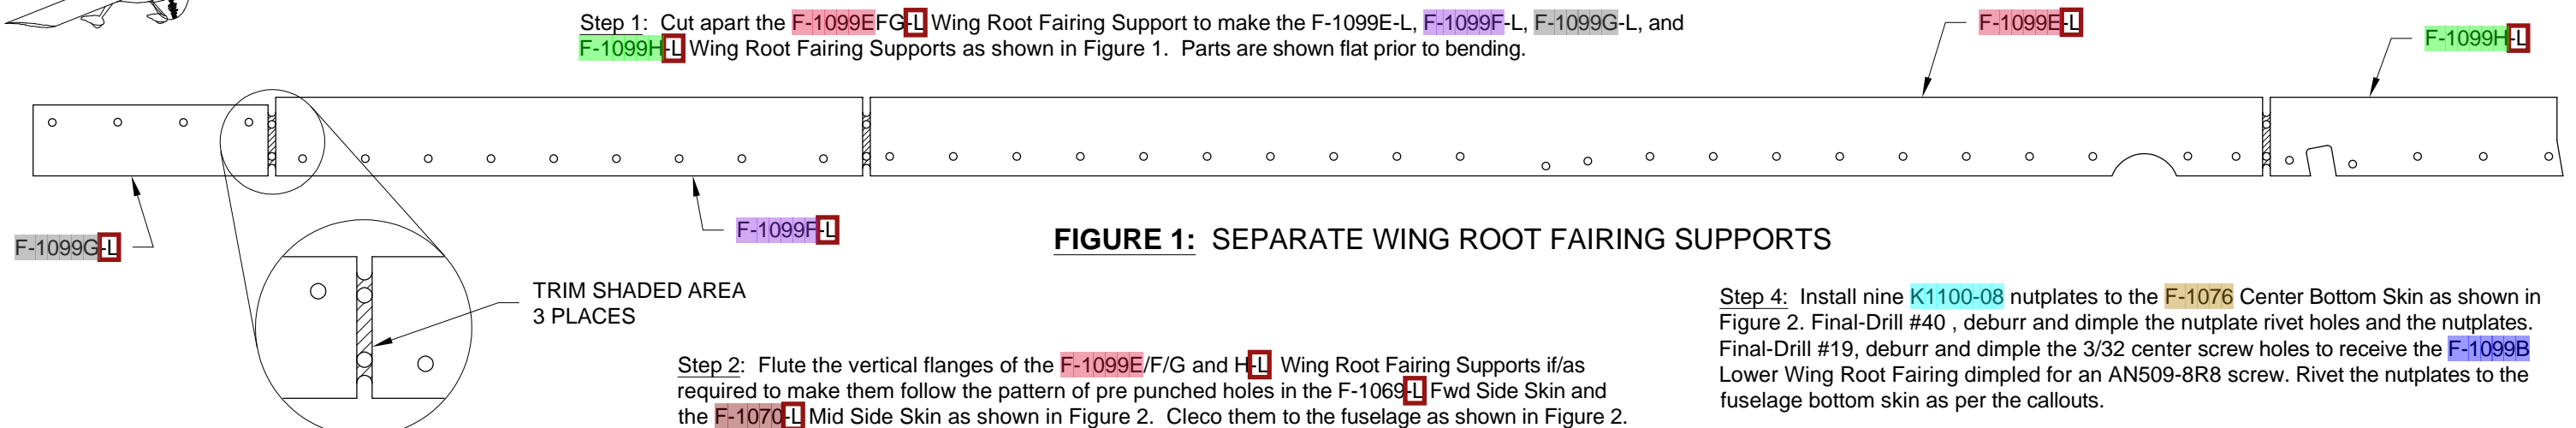

FIGURE 1: SEPARATE WING ROOT FAIRING SUPPORTS
Step 1: Cut apart the **F-1099E** **FC-L** Wing Root Fairing Support to make the **F-1099E-L**, **F-1099F-L**, **F-1099G-L**, and **F-1099H-L** Wing Root Fairing Supports as shown in Figure 1. Parts are shown flat prior to bending.